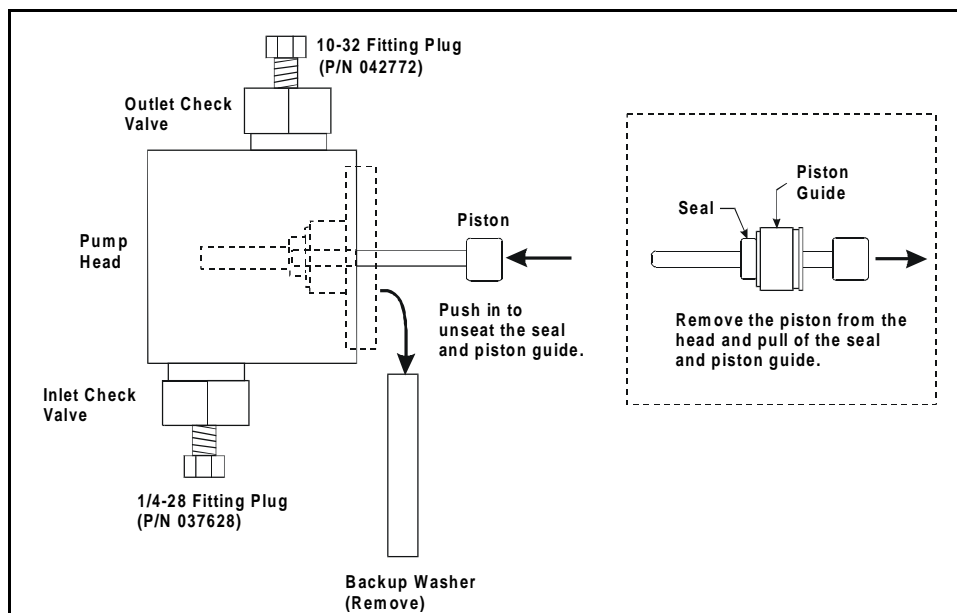

Figure 5-4. Removing the Piston Seal
- b. Reinsert the piston approximately 1/8 in into the seal (see Figure 5-4).